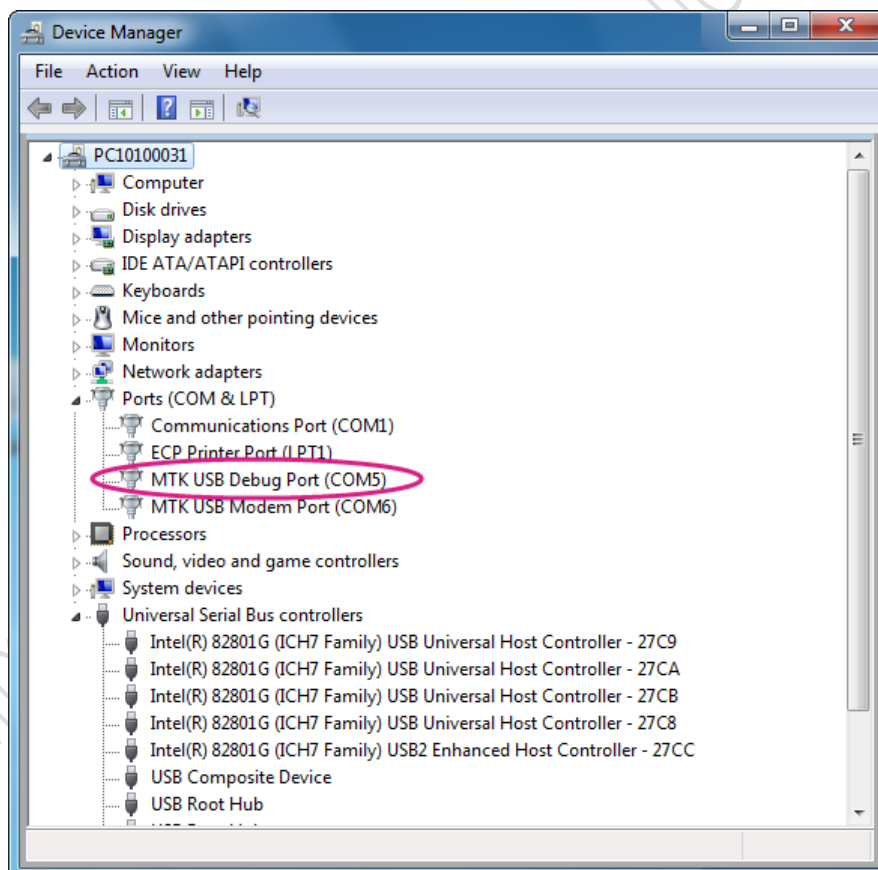

Figure 9 LinkIt ONE board listed in Device Manager
- 4 In Device Manager, navigate to **Ports (COM & LPT)** (see Figure 9).
- 6 A new COM device should appear under **Ports (COM & LPT)** in Device Manager, as shown in Figure 9. Note the *COMx* port number of the **MTK USB Debug Port**, this information is needed to complete configuration of Arduino IDE.
- In **Device Manager**, navigate to **Ports (COM & LPT)** and check that **MediaTek USB Debug Port** is displayed (see Figure 9).